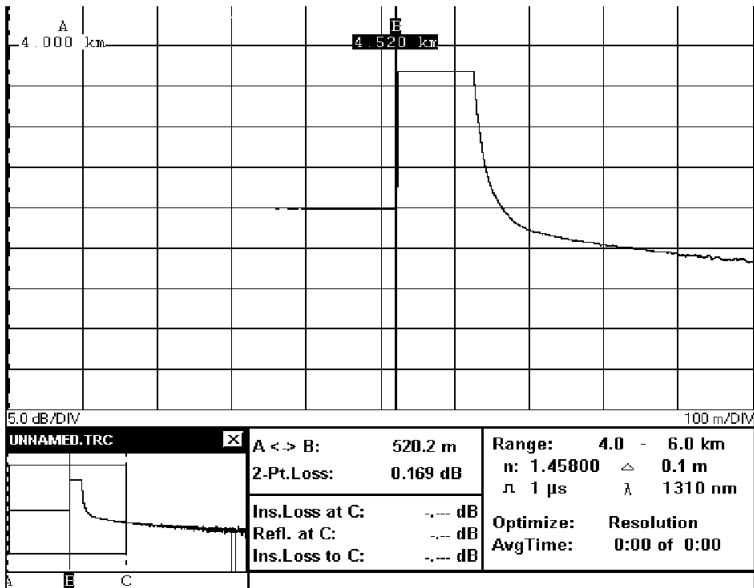

Figure D-11 Distance Accuracy Test: Position Markers
**17** Move marker A to the start position (left border of the main screen). See Figure D-11.
**18** Move marker B to the beginning of the endreflection. See Figure D-11.
- 19 Move marker C close to marker B. See Figure D-11.